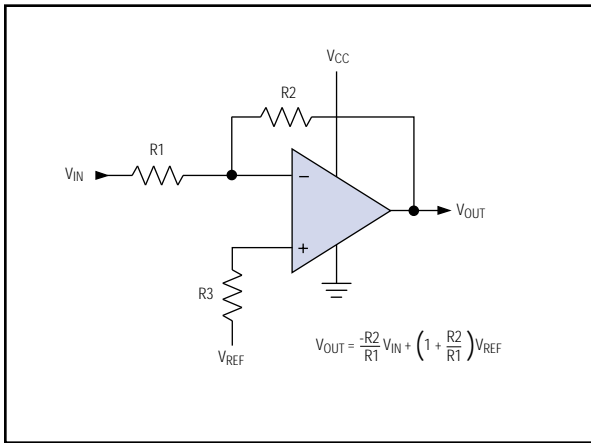
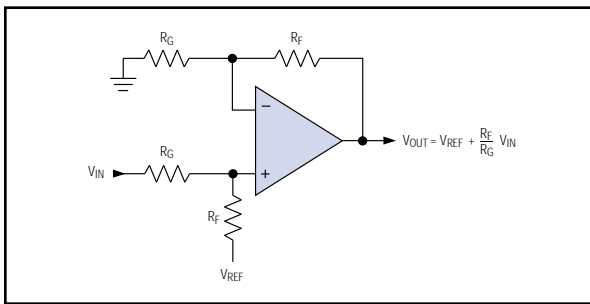

Figure 4. By holding the common-mode input voltage constant, the inverting-amplifier configuration eliminates common-mode-rejection errors.
Figure 10. Providing both gain and offset to the input signal, this circuit biases the output voltage away from the supply rails.
**Figure 3** shows how to match impedances in the classic inverting and noninverting op-amp configurations. The inverting configuration (**Figure 4**) offers one way to eliminate changes in the input bias current by keeping the amplifier's common-mode input voltage constant at a reference voltage ( $V_{REF}$ ). The output is given by  $V_{OUT} = (-V_{IN} \times R_2/R_1) + V_{REF}(1 + R_2/R_1)$ . If  $R_2 = R_1$ , this becomes  $V_{OUT} = -V_{IN} + 2V_{REF}$ . For  $V_{REF} = 2\text{V}$  and  $V_{IN}$  between 0V and 3V,  $V_{OUT}$  ranges from 4V to 1V. The common-mode range is fixed, so CMR errors are eliminated as well. **Table 2** lists references suitable for use in low-voltage systems.
Thus, for a given frequency, an op amp can achieve superior harmonic performance if it operates in its more linear region, with maximum loop gain. This usually means biasing the output away from the supply rails, as in Figure 4 (which introduces signal inversion and offset) or **Figure 10** (which introduces offset but no signal inversion).
The inverting method shown in Figure 4 eliminates common-mode nonlinearities by keeping the common-mode input voltage constant. This feature is particularly useful for rail-to-rail input amplifiers, whose nonlinearities are produced by changes in the common-mode input (as the input stage shifts from one input pair to the other).